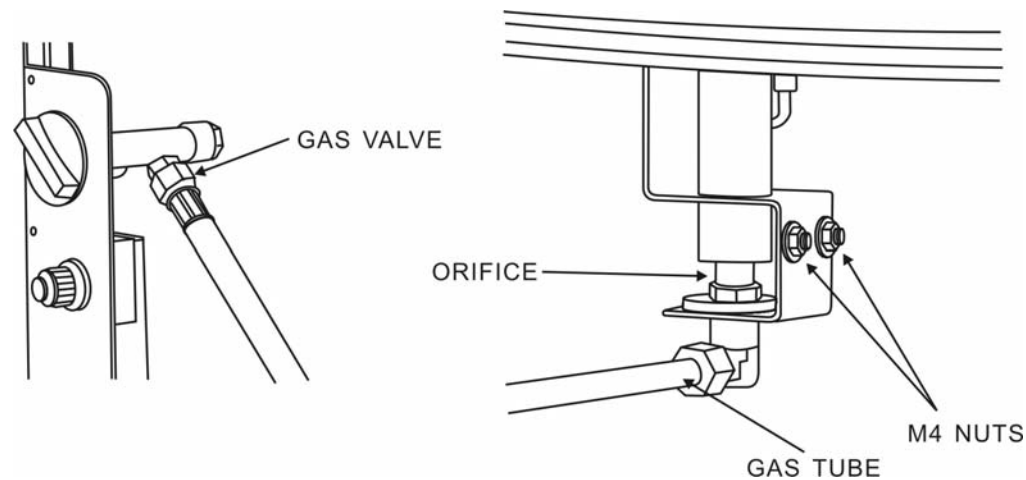

Figure 11
1. Disconnect the regulator hose from the gas valve. See Figure 11.